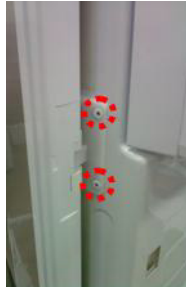

Figure 1
1. Disconnect water supply tube by pushing back on the disconnect ring (4).-FIG. 1
2. Open door. Loosen top hinge cover screw (1).
- Use flat tip screwdriver to pry back hooks on front underside of cover (2). Lift up cover.
5. Disconnect the two wire harnesses (4). Remove the grounding screw (5).
6. Rotate hinge lever (6) counterclockwise. Lift top hinge (7) free of hinge lever latch (8).